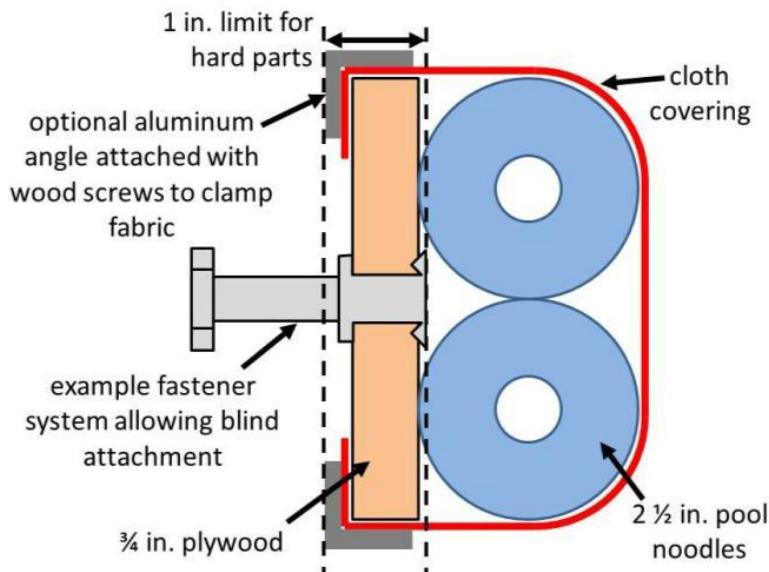
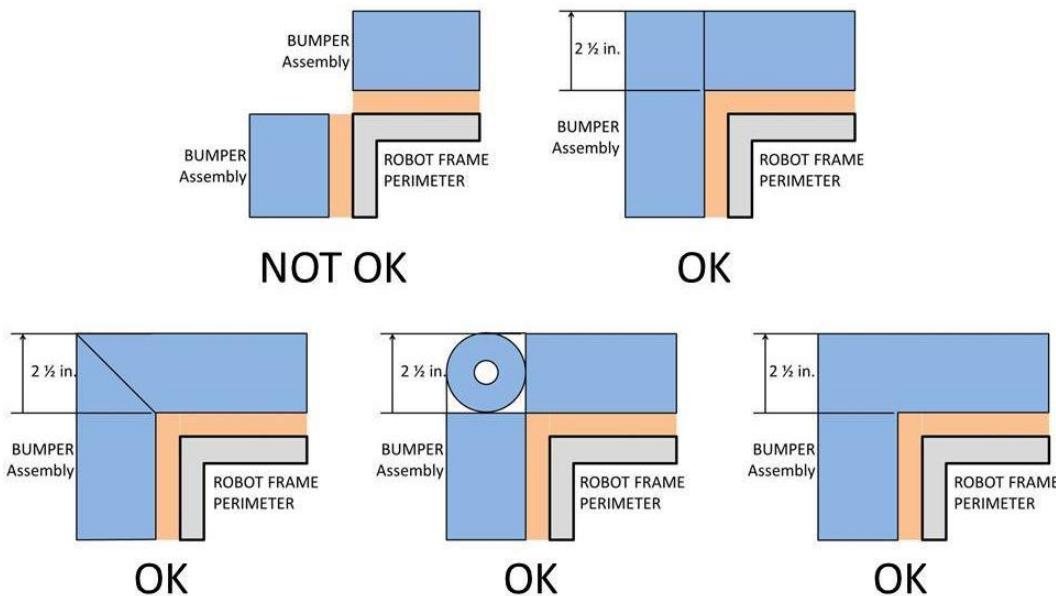

Figure 10-6 BUMPER Vertical Cross Section
Figure 10-7 Soft Parts of BUMPER Corners
R31. BUMPERS must be constructed as follows (see Figure 10-6):
- C. use a stacked pair of approximately $2\frac{1}{2}$ in. (nominal) round, petal, or hex "pool noodles" (solid or hollow) as the BUMPER cushion material (see Figure 10-6). All pool noodles used in a BUMPER set (e.g. Red set of BUMPERS) may not be deformed and must be the same diameter, cross-section, and density (e.g. all round hollow or all hex solid). Cushion material may extend up to $2\frac{1}{2}$ in. (~63 mm) beyond the end of the plywood (see Figure 10-7). To assist in applying the fabric covering, soft fasteners may be used to attach the pool noodles to the wood backing, so long as the cross section in Figure 10-6 is not significantly altered (e.g. tape compressing the pool noodles).
- D. be covered with a rugged, smooth cloth. (multiple layers of cloth and seams are permitted if needed to accommodate R28, provided the cross section in Figure 10-6 is not significantly altered).
- E. optionally use metal angle, as shown in Figure 10-6 or other fasteners (e.g. staples, screws, etc.) to clamp cloth.
R32. Corner joints between BUMPERS must be filled with pool noodle material. Examples of implementation are shown in Figure 10-7.